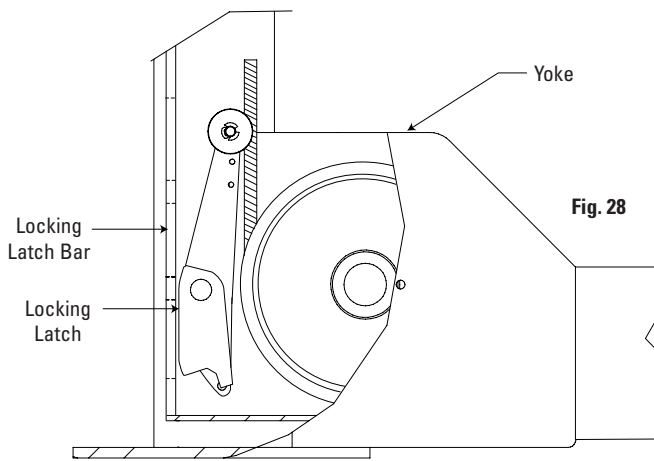

Fig. 28
- K. Actuate air valve and check latch operation on all four corners. The locking latches should pull in beyond yoke ends to clear the latch bars located in all four columns, Fig. 28.